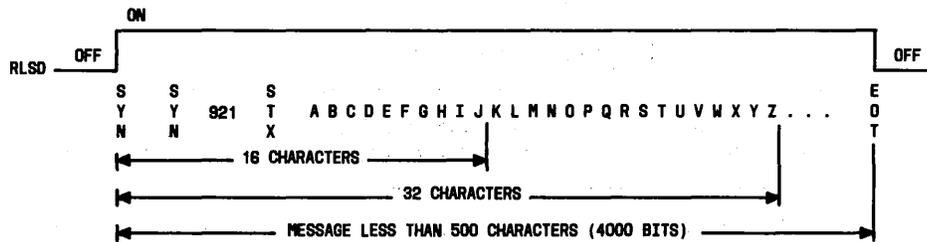

Fig. 19—Example of Start-Up Line Monitoring
**5.06** The use of start-up monitoring in trouble location is given by the example in Fig. 19. The initial 16 characters (SYN through J) are programmed first and transmissions of the message (SYN through EOT) are monitored and recorded. The message must be no longer than 500 characters (see paragraph 4.198). If no errors are displayed, the DTS is programmed for the next 16 characters (K through Z). This process of programming successive 16-character blocks is continued until the complete message is verified.